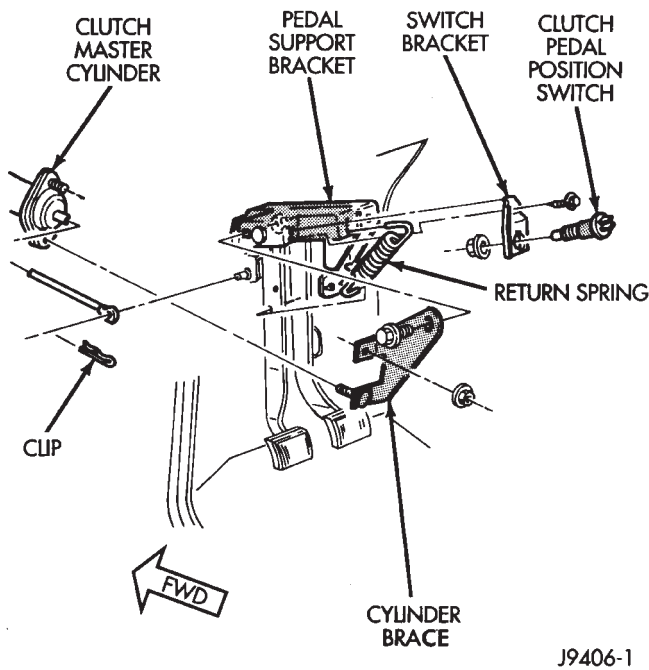

Fig. 8 Slave Cylinder Attachment
- (1) Raise vehicle.
- (2) Remove fasteners attaching slave cylinder to clutch housing.
- (3) Remove slave cylinder from clutch housing (Fig. 8).
- (4) Disengage clutch fluid line from body clips.
- (5) Lower vehicle.